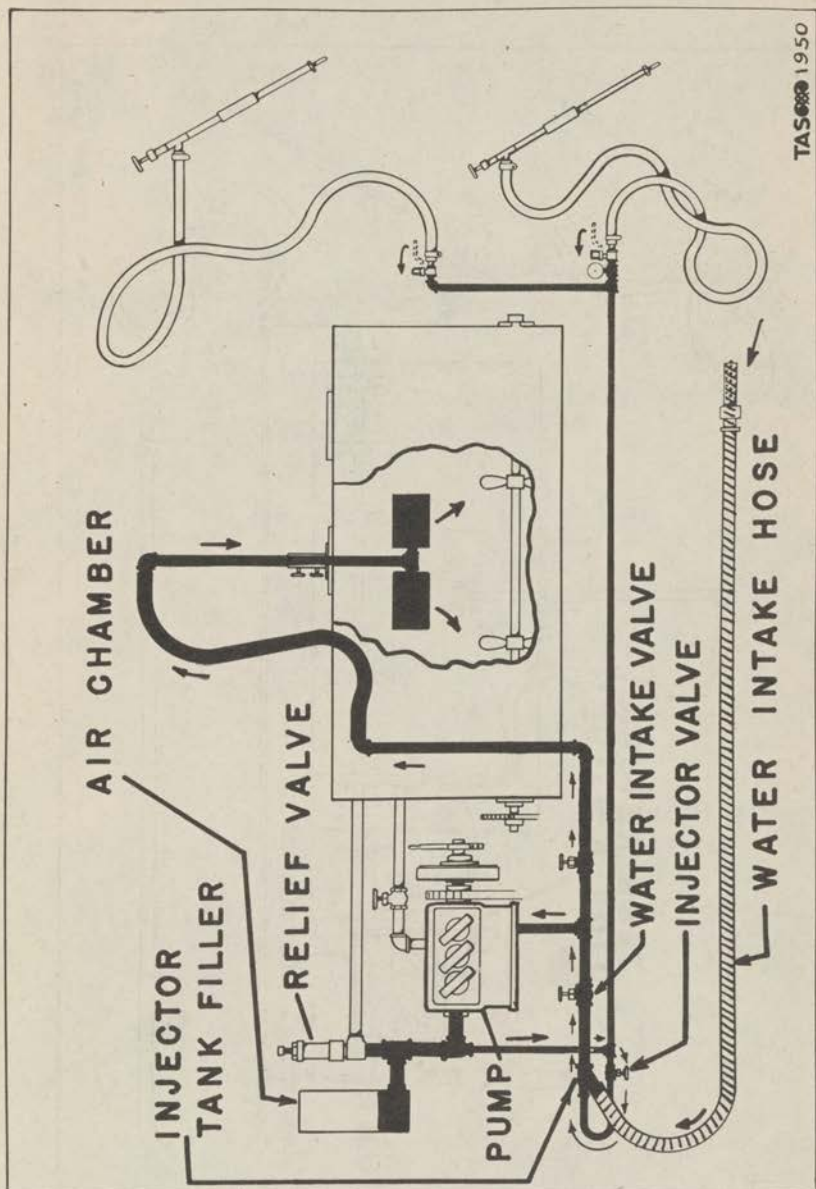

Figure 8. Injector Tank Filler.
(5) Injector tank filler. (See figure 8.) The injector tank filler is a device which makes possible the rapid filling of the tank with water, although all makes of the M3A1 apparatus can be filled by the pump alone. This device operates on the "venturi" principle. It is put into operation by opening the injector valve, which allows water from the pump to pass through the injector at high pressure and velocity. As a result, water is drawn into the water intake line and forced through the bleach intake line into the tank. By this means the tank can be filled with water in less than 10 minutes.